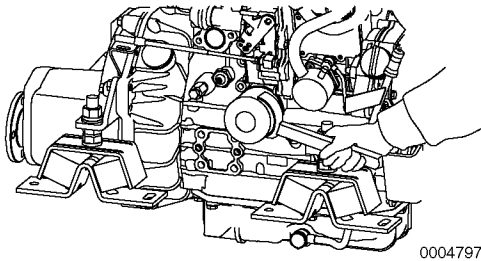

Figure 2
- Turn the engine oil filter (**Figure 2**) counterclockwise with a wrench.